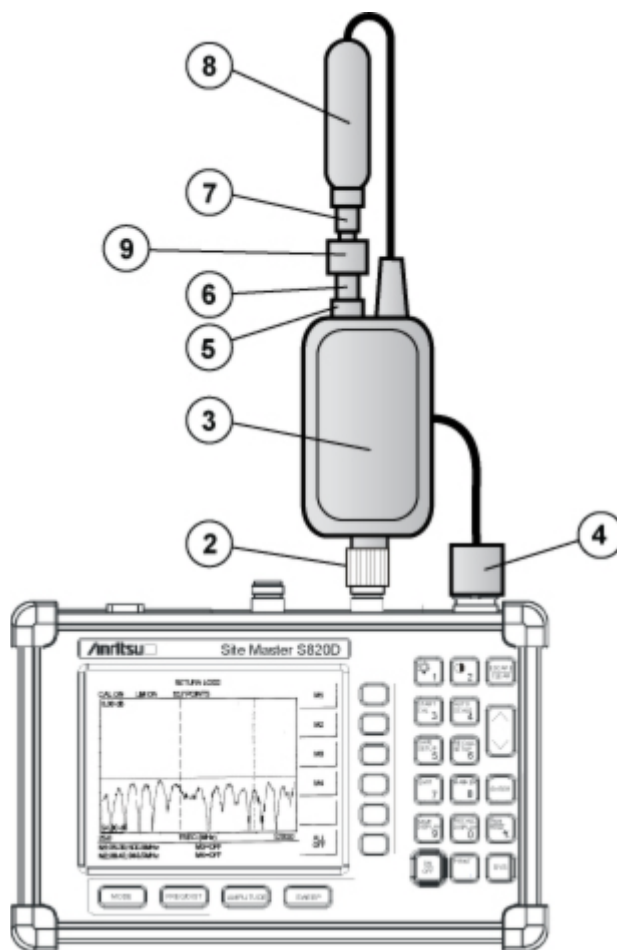

Figure 2-11. Two-Port Cable Loss Measurement Verification with 10 db Attenuator
- When using the Anritsu CWM220NF CW Source Module and the Anritsu 560-7N50B RF Detector, insert Anritsu 34NKF50 and 34NFK50 adapters between the CWM220NF and the 560-7N50B, as shown below in Figure 2-11 below
Table 2-4. Callout Index for Figure 2-11, “Two-Port Cable Loss Measurement Verification with 10 db Attenuator”
Table 2-4. Callout Index for Figure 2-11, “Two-Port Cable Loss Measurement Verification with 10 dB Attenuator”